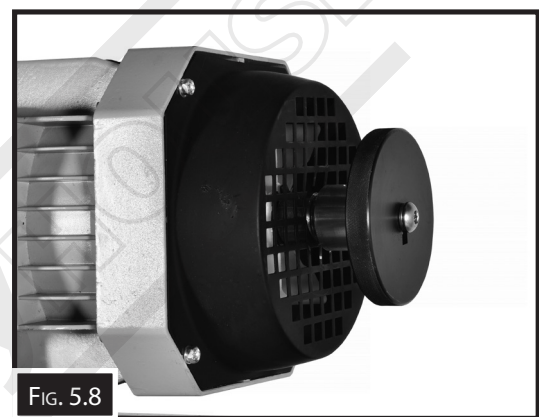

FIG. 5.8
2. Using the hand wheel on the back of the motor, lower the top die to the lowest part of the stroke. (Fig. 5.8)